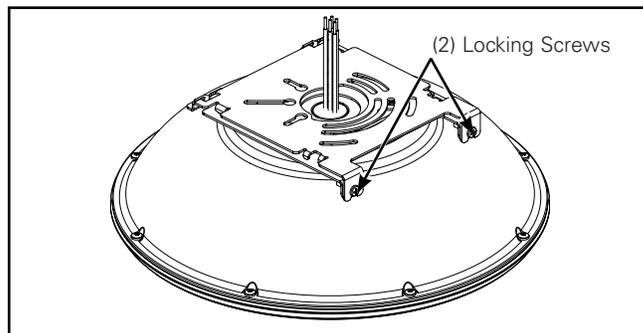

Figure 7.
1. Loosen (Do not remove) the two locking screws. Slide quick mount plate forward until the plate disengages from the housing (Figure 7).